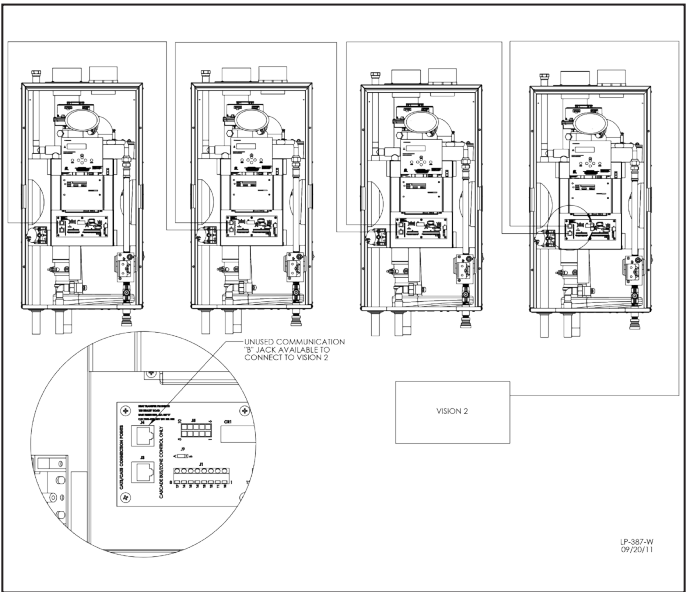

Figure 30 - Wiring Cascade System
1. A Cascade Bus Termination Plug has been installed on the customer connection board of this boiler. The purpose of this plug is to stabilize communication between multiple boilers and reduce electrical “noise”. See Figures 30 and 31 for Cascade Bus Termination Plug installation detail.